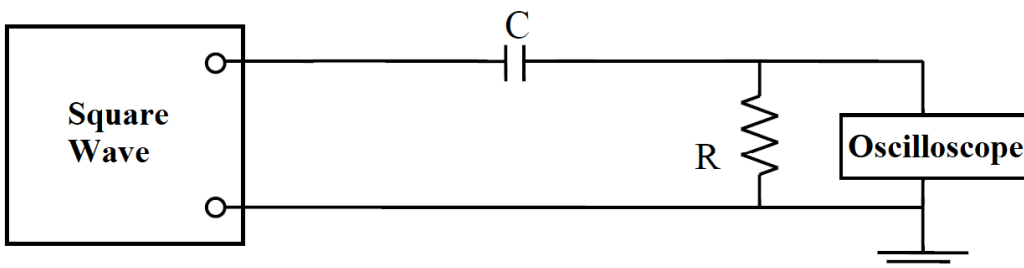

Figure 6.1
1. For Fig. 6.1, do your theoretical calculations and sketch the waveforms of $V_C(t)$ and $V_R(t)$ roughly. Compare your theoretical and simulated voltage waveforms, and comment on differences.
1. Build the circuit given in Fig.6.1. ($R=1k\Omega$, $C=100nF$)